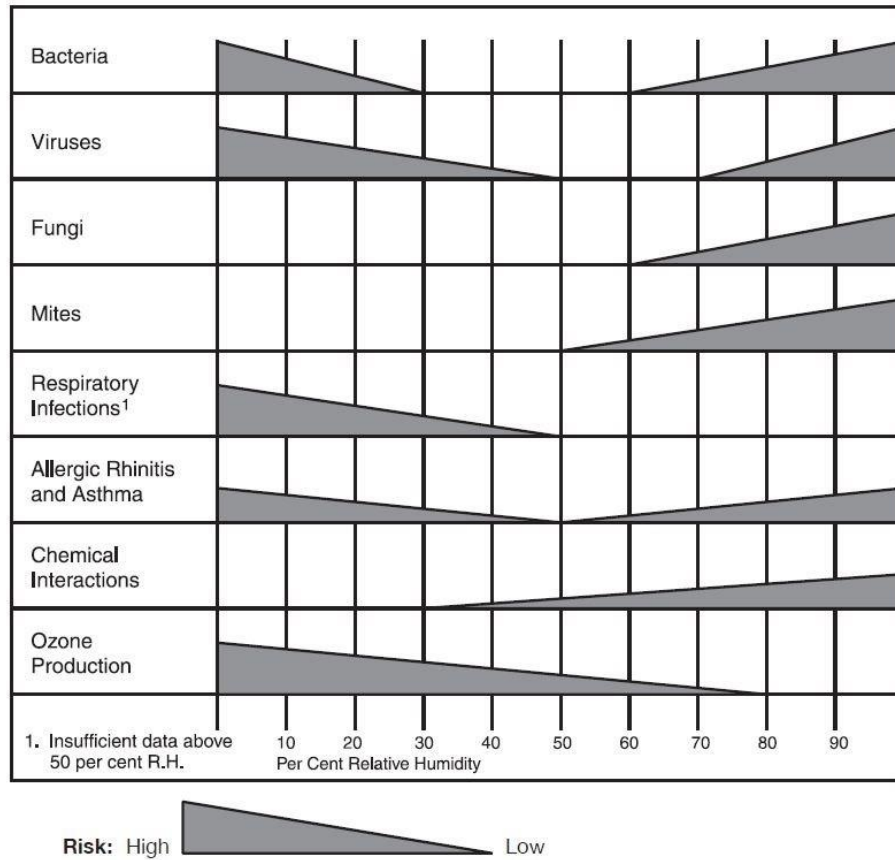

Figure 36: Humidity Levels at Which Various Air Quality Problems occur⁴⁸
- › Figure 36 further below illustrates the impacts of high and low relative humidity levels on air quality.